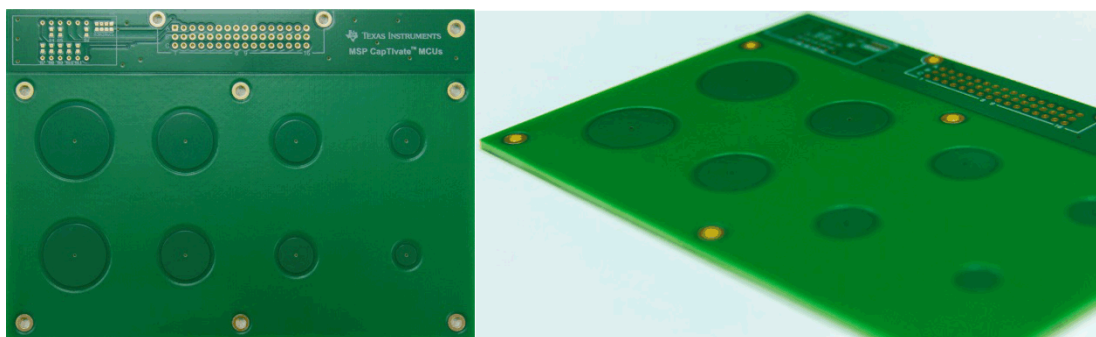

Figure 17. PCB With Spacer
3. A spacer incorporated into the PCB, growing prepreg during PCB fabrication (see Figure 17).